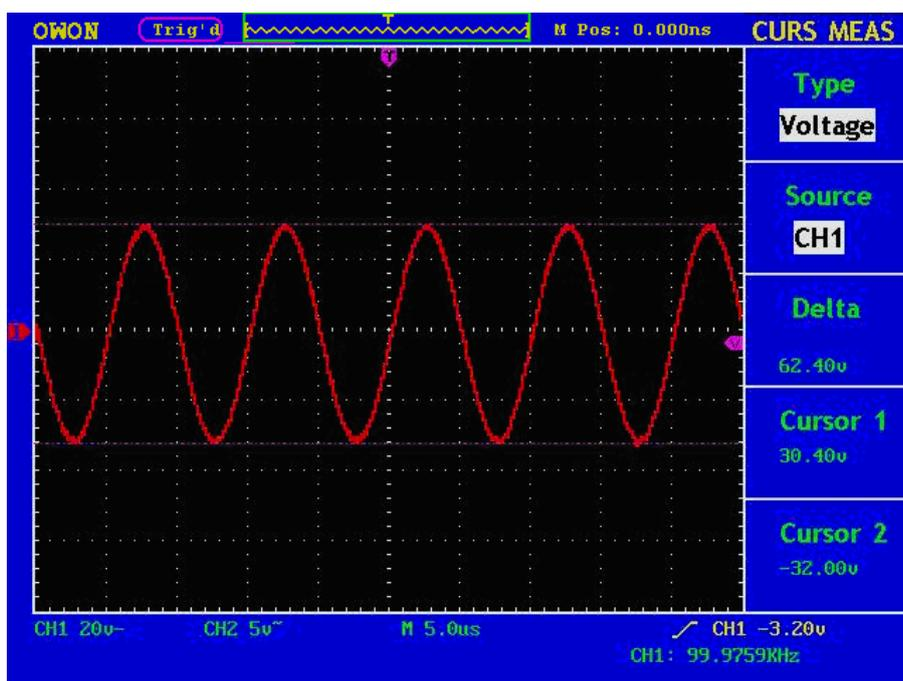

Fig.5-46 Waveform of Voltage Cursor Measurement
- Adjust the positions of **CURSOR1** and **CURSOR2** according to the measured waveform, with the absolute value of the voltage amplitude difference between Cursor 1 and Cursor 2 displayed in the increment window. The current position of Cursor1 is displayed in the Cursor1 window and that of Cursor2 is displayed in the Cursor2 window (see **Fig.5-46**).